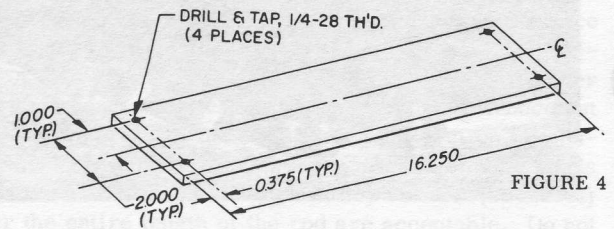

FIGURE 4
- Drill and tap the existing fixture base plate as shown in figure 4. (b) Secure the fixture base plate with four AN4-6A bolts and four AN960-416 washers. Bolt heads must be down. (c) Secure the clevis por-